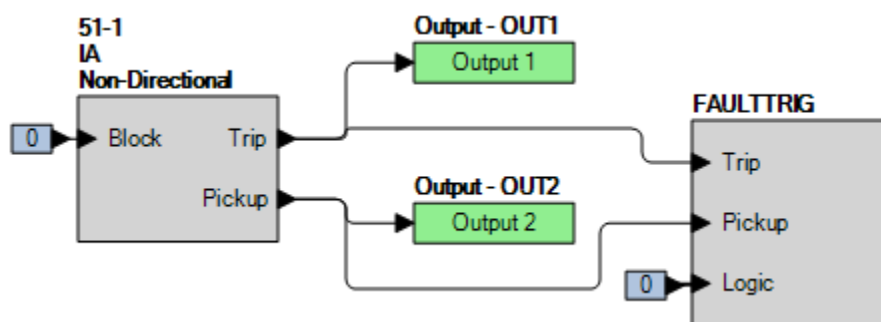

Figure 65-1. BESTlogicPlus Settings (Phase Mode)
Step 2: Use BESTCOMSP $lus$  to configure the BESTlogic $Plus$  programmable logic shown in Figure 65-1.
- Step 4: Prepare to monitor the 51-1 function operation. Operation can be verified by monitoring OUT2 (see Figure 65-1).